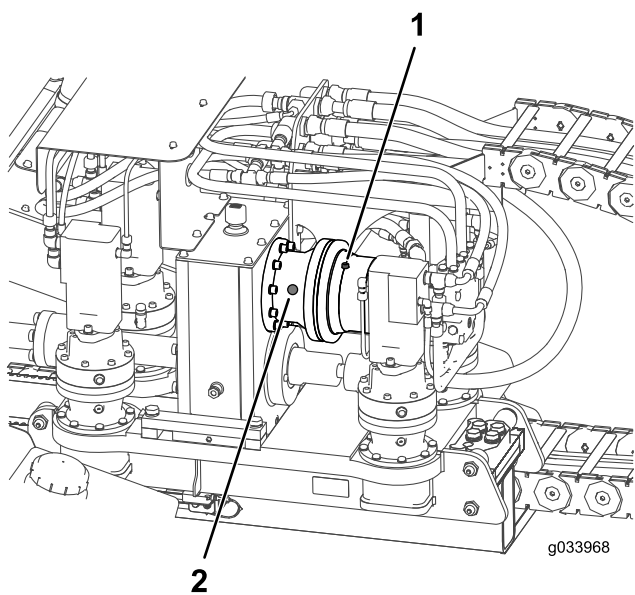

Figure 134
2. Check the oil level on the sight-glass on the rotary motor planetary drive (Figure 134).
3. If the oil level is low, remove the oil-level plug (Figure 134).